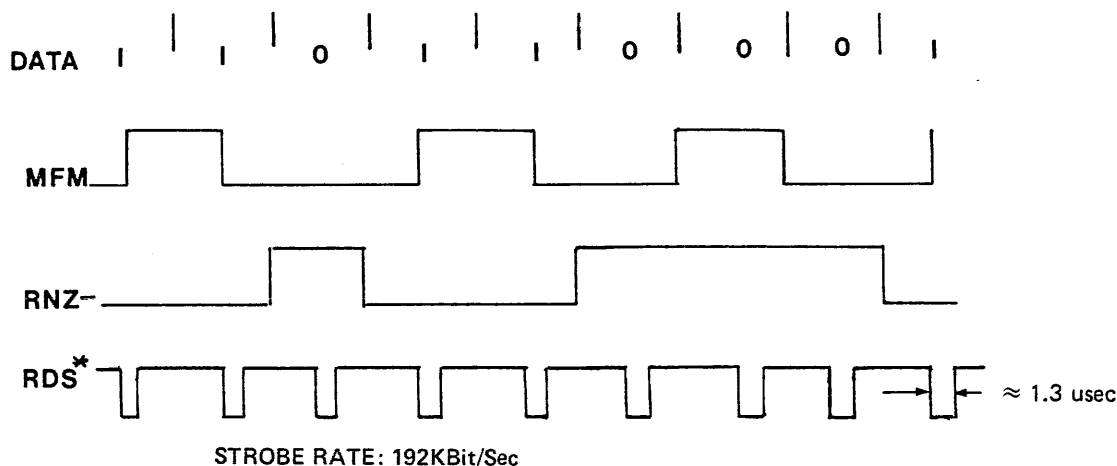

FIGURE 4-6. RNZ- AND RDS- TIMING
4.5.4 Read Data Generation (Refer to Figures 4-6 and 4-7.)
Figure 4-6 illustrates the MFM and resultant NRZ read data while Figure 4-7 shows the stages of the Data and Codec Boards. The read data decoding stages include a desake circuit, a phase lock servo, a timing pulse generator consisting of four one shots whose pulsewidths are controlled by the servo output, a data acquisition circuit, which includes a preamble stripper and a read data strobe generator.